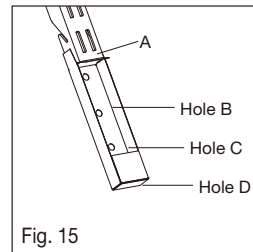

Fig. 15
- Align the drilling template box (Q) as a locator as shown and mark the holes on the wall (see Fig. 15).